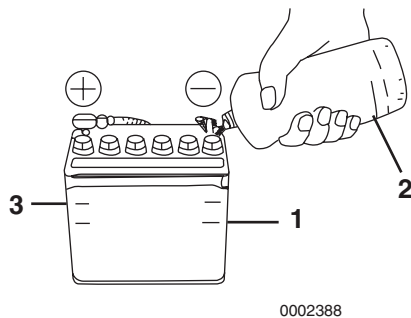

Figure 4-3
4. If the level is lower than the minimum fill level (**Figure 4-3, (1)**), fill with distilled water (**Figure 4-3, (2)**) (available locally) up to the upper limit (**Figure 4-3, (3)**) of the battery.